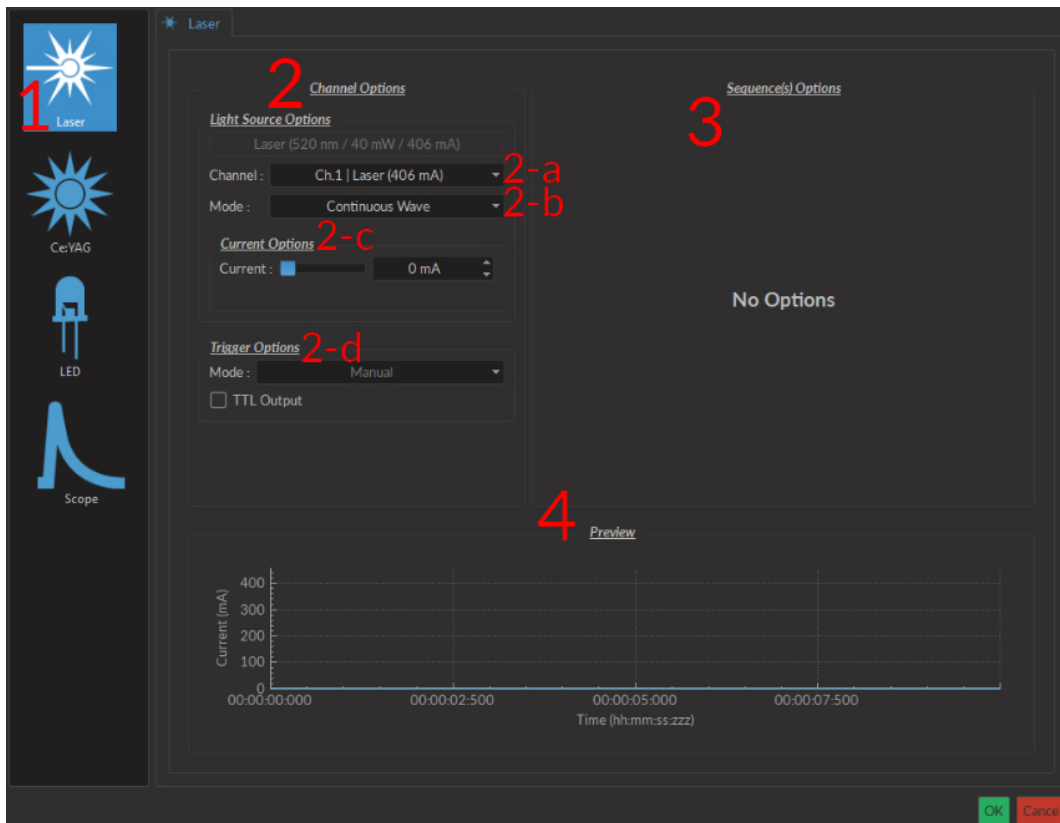

Figure 3.2: Light Source Channel Configuration Window
Each light source driver is separated into a number of **Channels**. Each channel controls a single light source. While each channel can be controlled in **Stand-alone** mode by the driver, additional functions can be accessed for these channels when the driver is connected to the Doric Neuroscience Studio. These functions are used through the **Channel Configuration** window (Fig. 3.2).
1. The **Channel Types** (Fig. 3.2) are displayed on the left side of the window. These include **Laser** light sources, **Ce:YAG** light sources and **LED** light sources, as well as the **Scope** to measure signal using the driver.
2. The **Channel Options** box (Fig. 3.2) includes **Light Source Options** and **Trigger Options** for the given channel.
- a) The **Channel** (Fig. 3.2) drop-down list identifies which driver channel is currently being edited, assuming a driver with multiple channels.
- b) The **Mode** (Fig. 3.2) drop-down list includes each possible driver mode. These are used to control the pulse sequences emitted by the light source. The options related to this mode are detailed with the **Sequence Options**.
- c) The **Current Options** (Fig. 3.2) includes the slider used to control the current sent to the light source.
- d) The **Trigger Options** (Fig. 3.2) allow the selection of a number of trigger modes to activate a pulse sequence.
3. The **Sequence options** box (Fig. 3.2) is where sequence options are defined depending on the mode. The **Continuous wave**, **External TTL** and **External Analog** modes have no additional sequence options.
4. The **Preview** box (Fig. 3.2) displays a preview of the chosen sequence while in the **Continuous Wave**, **Square Sequences** and **Complex Sequences** mode.